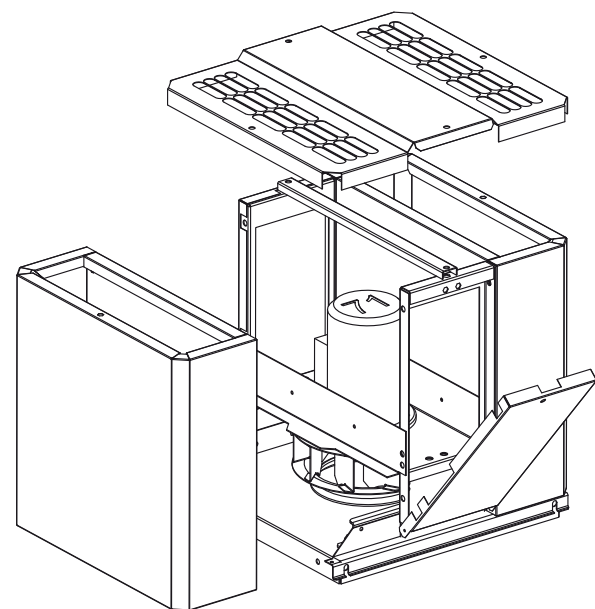

Fig. 4
2. Open the fan section as described in previous section „Maintenance“, pos. 2 and 3.
4. Lowe the fan section and remove the protective screen...(Fig. 4), loose the motor cable and remove the motor from the motor bracket.